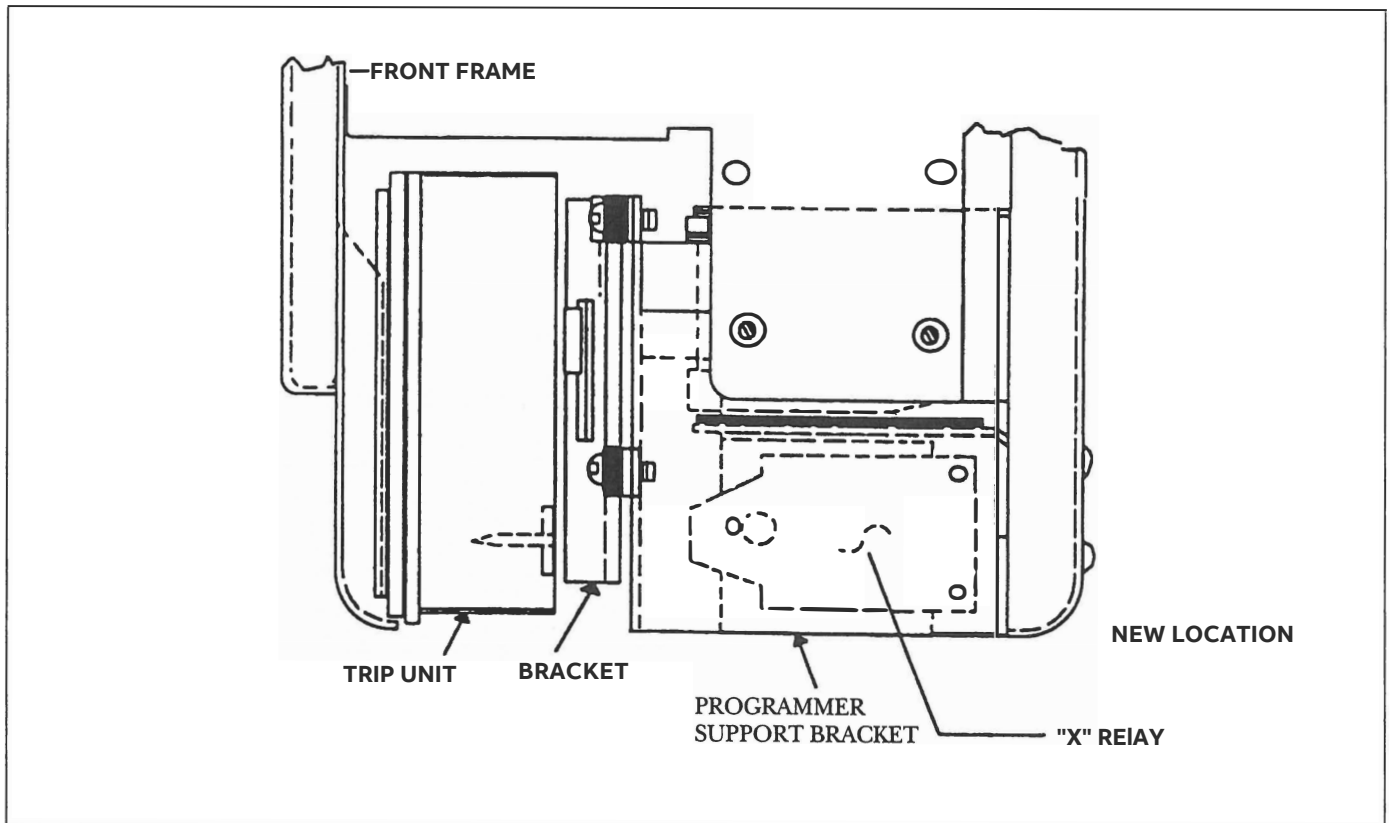

Fig. 3-9. Right Side View Showing Mounting Position of Programmer Unit
Assemble the programmer shock mount bracket to the programmer support bracket per Fig. 3-9.
Mount the X relay on the bracket using (3) #10 screws and lock washers provided, see Fig. 3-9.